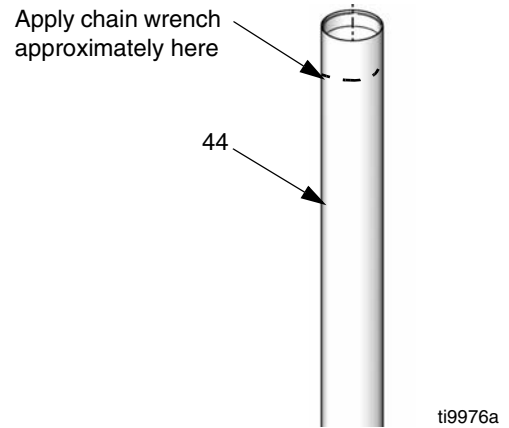

FIG. 16
- Use a chain wrench near the top of the suction tube at the point indicated in FIG. 16, and a wrench on the flats of the foot valve (45) to loosen the foot valve from the suction tube (44). To prevent damage to the suction tube, do not remove the foot valve until instructed to do so in step 3.
-  When removing the suction tube, be very careful not to bend, dent, or damage it. To avoid damage, use the chain wrench only at the top and bottom of the suction tube as indicated in FIG. 16 and FIG. 17. Do not apply the wrench to the middle of the suction tube.